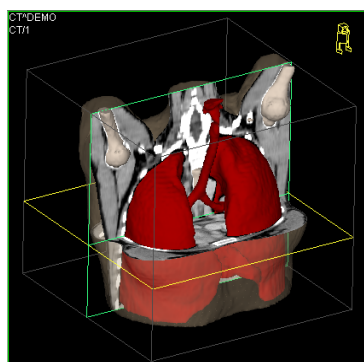

Figure 322 – 3D view
- To display ROIs in 3D view (see Figure 322), click the **3D** button.